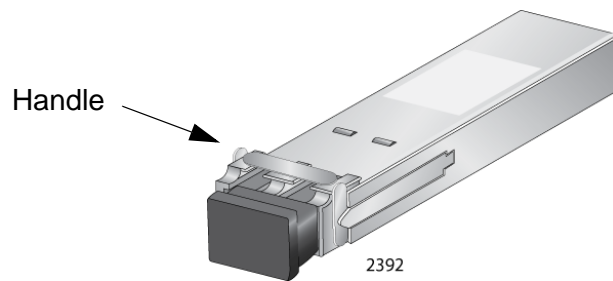

Figure 100. Handle on the XFP Transceiver
3. Orient the transceiver with the handle on top, as shown in Figure 100 on page 163.